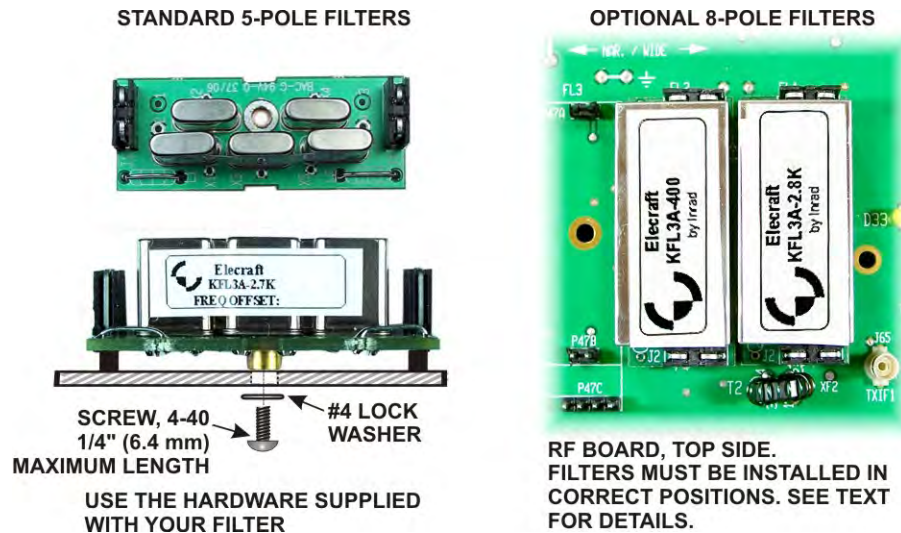

Figure A-6. Installing the Crystal Filters.
- Enter the FREQ OFFSET shown on each 5-pole filter (see Figure A-6). The optional 8-pole filters have no offset. Enter a zero in the FREQ OFFSET column for those filters. **For the 5-pole filters, note that the frequency offset may be *negative*, indicated by a minus sign (single dash) ahead of the number.**
Install the filters as shown in Figure A-6. Refer to the list of filters you created in Table A-1 to determine which filter to install at each location.